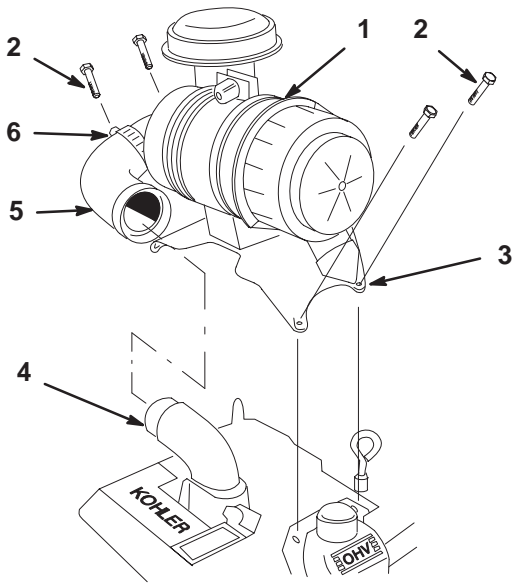

Figure 8
1. Remove air cleaner from crate. Keep air cleaner and bracket together. (Fig. 8).
2. Remove the top two valve cover mounting screws from both valve covers (Fig. 8).
- Place air cleaner onto engine and align holes in air cleaner bracket with holes in valve covers (Fig. 8).
- Install valve cover screws into air cleaner bracket and valve covers (Fig. 8).
- Remove plastic plugs from air intake elbow on engine and air cleaner hose (Fig. 8).
- Install hose to air intake elbow on engine and air cleaner. Tighten hose clamps to secure the hose connections (Fig. 8).